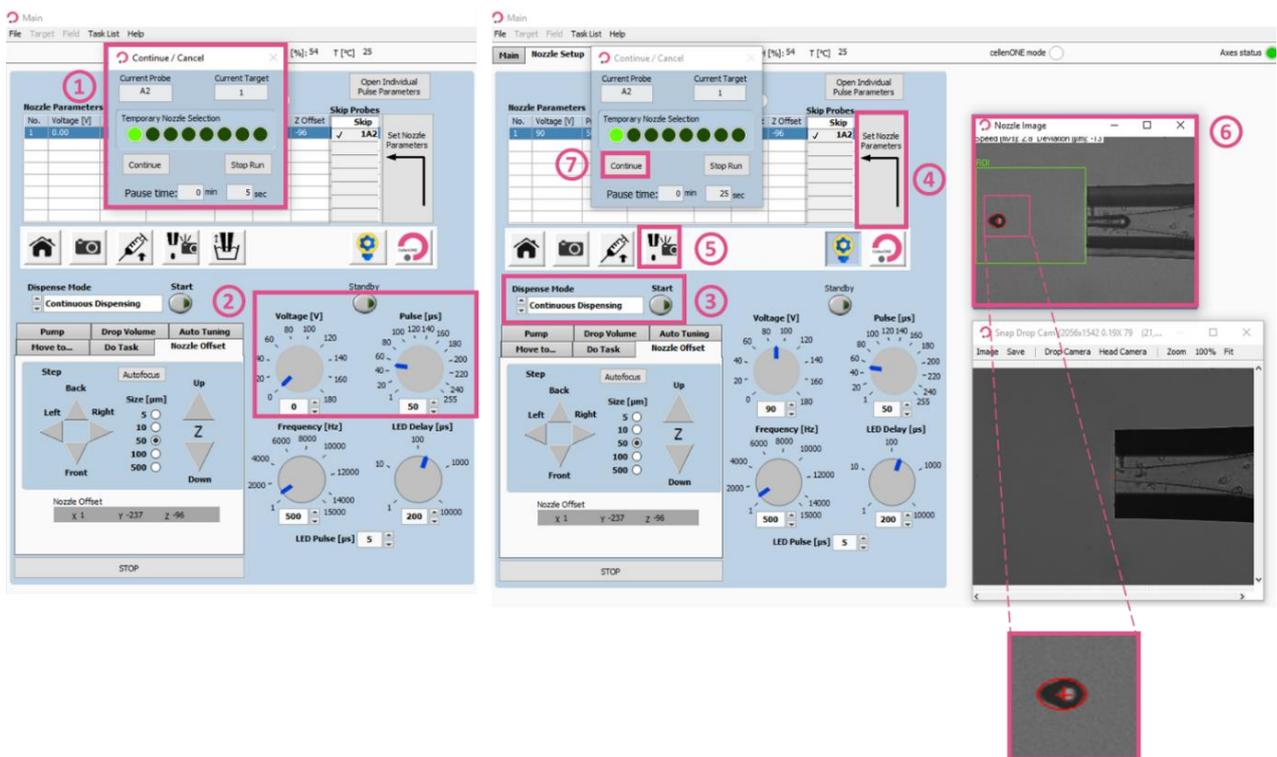

Figure 8. Drop Setup and start dispensing
Each dispensing run is built with the same logic, once the run starts (Figure 8):
- The user must check that the dispensing parameters (Voltage and Pulse) (Figure 8 (1)) are correct by pressing the “Continuous Dispensing” button (Figure 8 (2)) until a drop is stable without any satellite (if any).
- The user must save the new settings if the Voltage and Pulse were modified (Figure 8 (3)) and press the “Drop Check” button (Figure 8 (4)) and check if the drop is identified by the software (circled in red) (Figure 8 (5)).
- Once the droplet generation is stabilized, click “Continue” to resume the run (Figure 8 (1)).